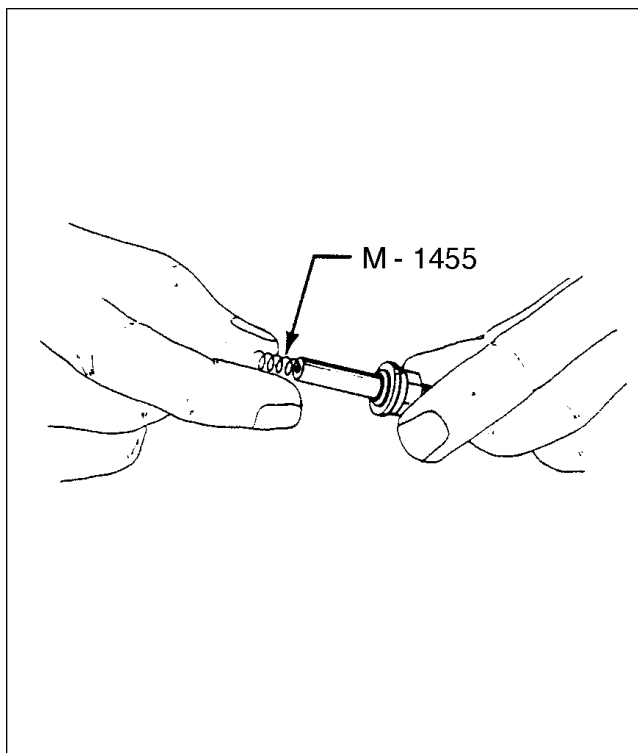

Figure 8-33. Installation of Spring
7. Turn M-1455 Spring clockwise on the electrode screw three full turns until the end is flush with the first large coil of the spring. Refer to Figure 8-33.